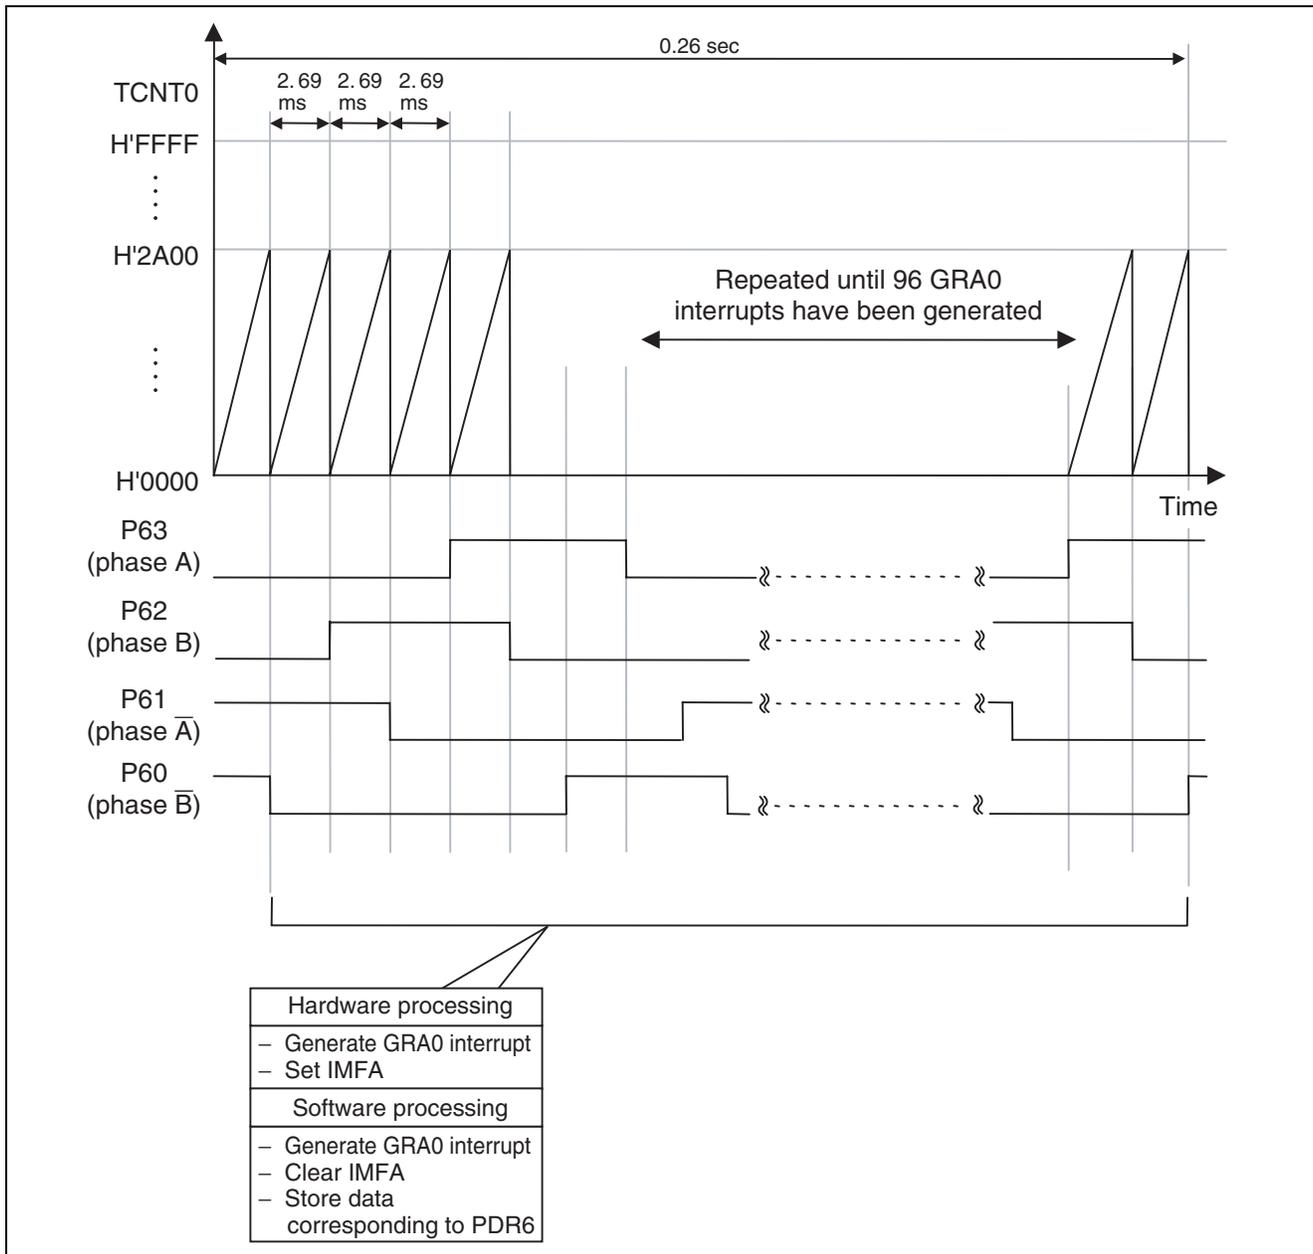

Figure 13 Principle of Constant Control during Reverse Rotation
3.10 Figure 13 illustrates the principle of constant control during reverse rotation.